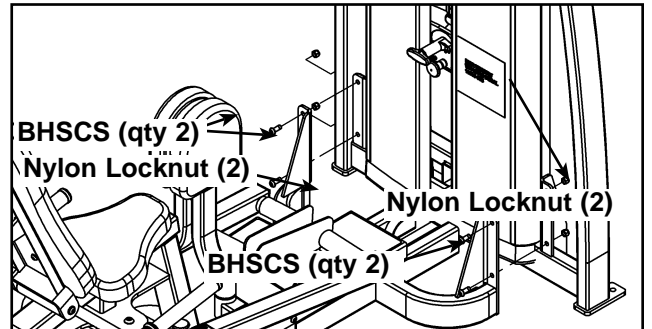

Figure 2
- C. With an assistant, carefully remove the four BHSCS securing the two halves of the frame. See Figure 2.
- E. With an assistant, carefully attach each half together using the four BHSCS removed in step 4C. See Figure 2.